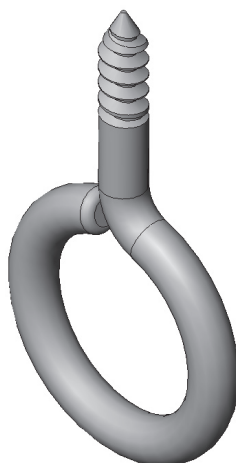
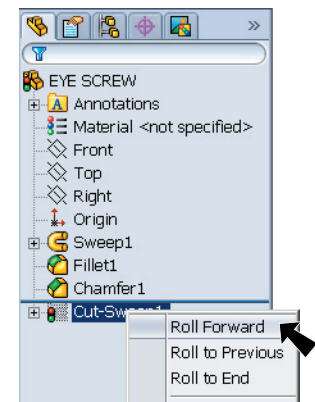

Fig. 38
Fig. 37
Step 6. Roll forward to display the Cut-Sweep. To roll forward, **right click** Cut-Sweep in the Feature Manager and click **Roll Forward** in the menu, **Fig. 37** and **Fig. 38**.